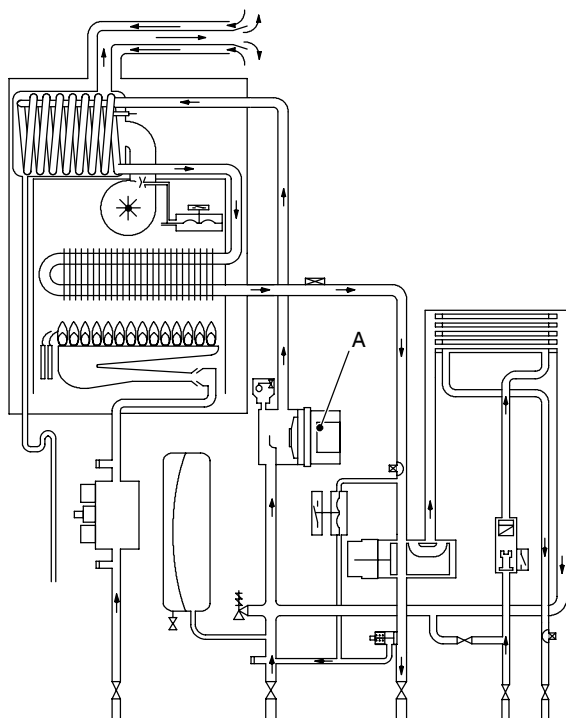
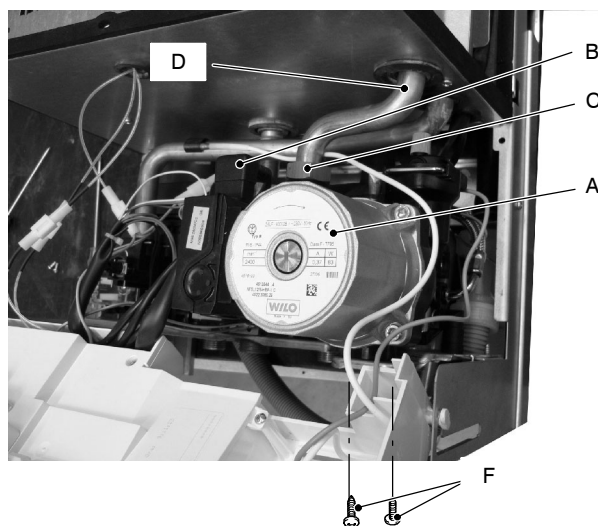

Fig. 18
Fig. 19
The pump *A* in Fig. 18 and Fig. 19 has the function of making the water in the main circuit circulate through the main heat exchanger, the condensing heat exchanger and therefore through the c.h. system (during the c.h. function) or through the secondary heat exchanger (during the d.h.w. function).
- 4 Disconnect the connector *B* (Fig. 19).